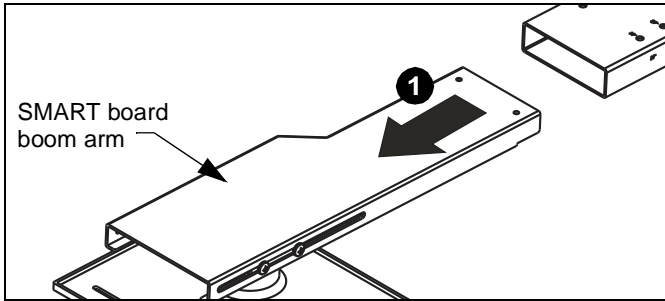

Figure 8
1. Remove end of boom arm with projector attachment plate and save hardware. (See Figure 8)